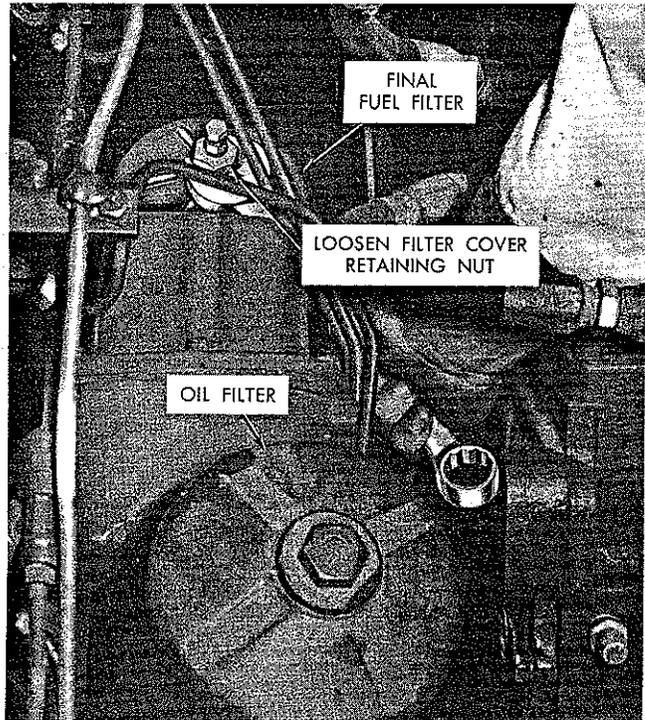
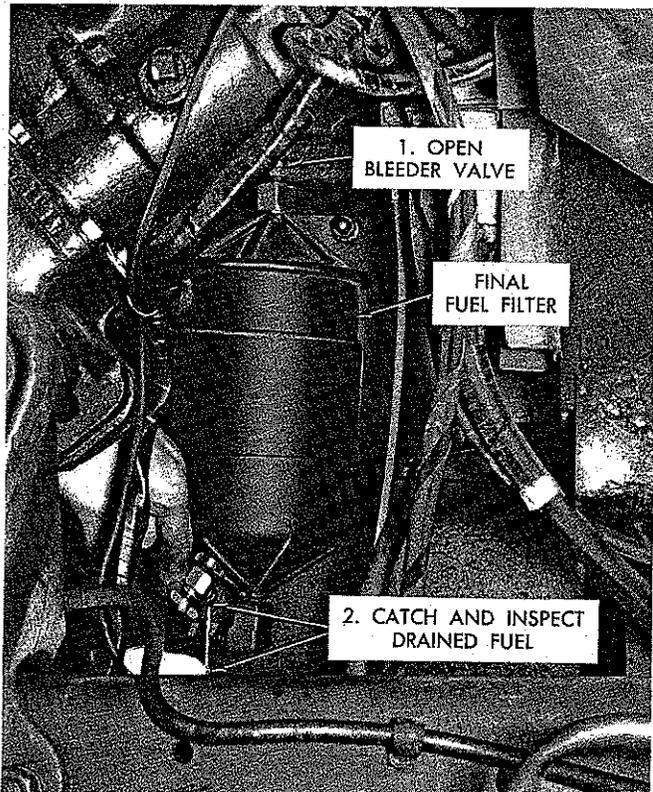

Figure 26
Figure 25
- (8) Here again, if any water or black-in-color dirty fuel was found in the vehicle secondary fuel filter, you must also inspect the engine final fuel filter for contamination.
- (9) Drain the engine final fuel filter assembly observing the drained fuel for any signs of water or black-in-color dirty fuel, Figure 25. Should either or both types of contaminated fuel be found, clean the filter housing and replace the filter element. The procedure used for replacement of this filter element is shown in Figures 26, 27 and 28.
- (10) Now that all fuel filters are cleaned and new elements installed, drain the vehicle fuel tank if contaminated fuel was found, and replenish it with clean fuel.